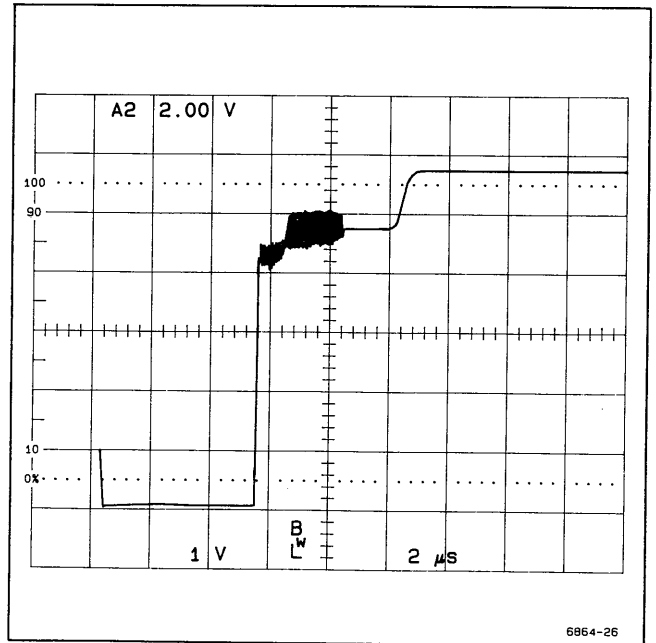
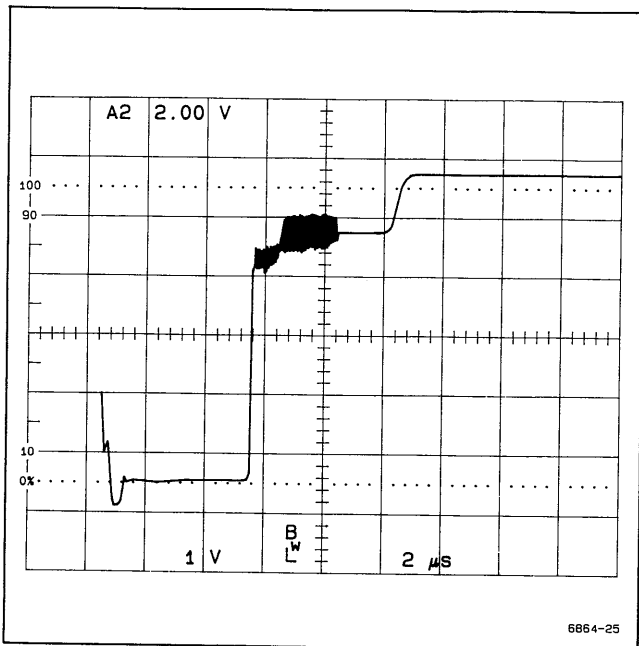

Figure 2-2. Loop Gain Over-Adjustment.
Figure 2-1. Loop Gain Adjustment.
g. Adjust the trigger level on the bench scope if necessary to get a clear trigger on the falling edge of the sync pulse. The waveform displayed on the bench scope should look very similar to those shown in Figures 2-1 and 2-2.
h. While watching the waveform displayed on the bench scope, turn R5608 on the TV board and observe the waveform. As you decrease the resistance of R5608 you will see the aberrations in the bottom of the sync pulse decrease. The pot should be adjusted to the point where the bottom of the pulse just starts to move down, as shown in Figure 2-1. If you continue to decrease the resistance, the back portion (closest to the rising edge of the sync pulse) will move down and the bottom of the sync pulse will flatten out completely, as shown in Figure 2-2. This indicates an overdriven condition. When the pot is properly adjusted it should be somewhere in the middle of its range.